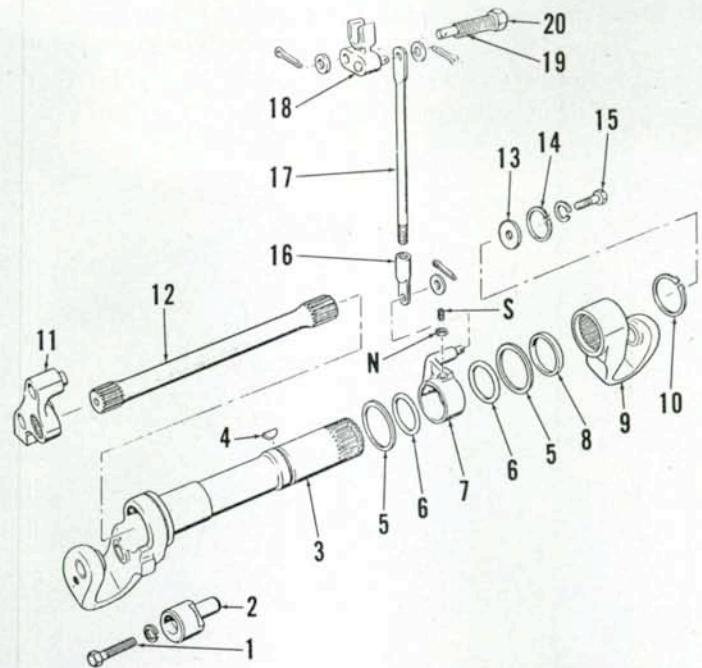

Fig. 295—Exploded view showing torsion bar, lower link hangers and draft control linkage. Refer to Fig. 296 for adjustment of draft control link (16 and 17).
**214. TORSION BAR.** To remove torsion bar (12—Fig. 295), first remove hitch lower link from left lower link hanger (3). Remove cap screw (15) from right end of torsion bar. Unbolt and remove torsion bar anchor (11), then withdraw torsion bar from lift link hanger (3). If bar is broken or seized, remove snap ring (14) and flat washer (13) from right end of lower link hanger (3), then use suitable drift to drive torsion bar from right to left out of the hanger.
**215. LOWER LINK HANGERS.** To remove lower link hangers (3 and 9—Fig. 295), first drain oil from rear axle center housing. Remove lower links from the hangers. Remove cap screw (15) and snap rings (10 and 14), then remove right hanger from end of left hanger.
**216. DRAFT CONTROL LINKAGE.** To service draft control linkage shown in Fig. 295, lift cover must first be removed as outlined in paragraph 207. The eccentric pin (19), lever assembly (18) and link (16 and 17) can then be removed. To remove draft control arm (7), follow procedure outlined in paragraph 215 for removal of left lower link hanger (3).